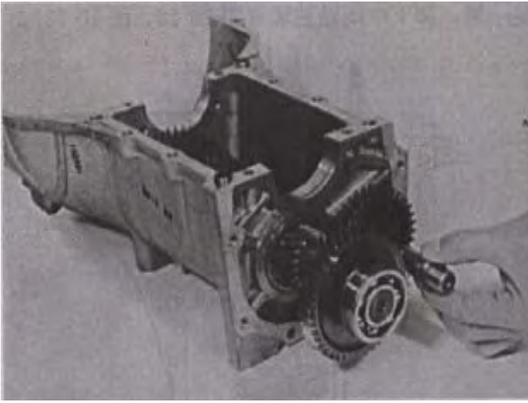

Fig 10-19
(1) Remove reverse gear shaft with gear. (FIG.10-19)